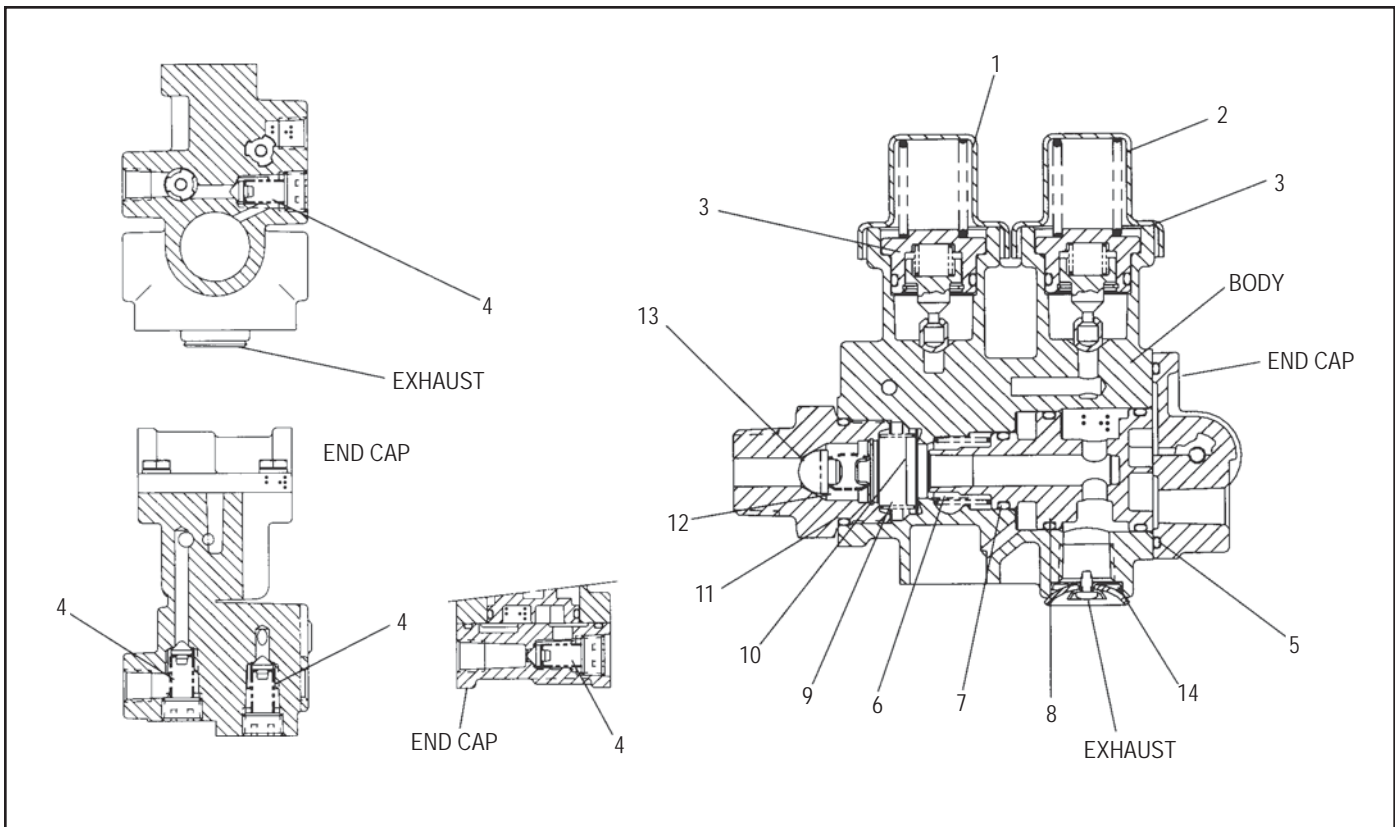

FIGURE 5 INSETS - VIEWS OF LOCATION OF THE FOUR CHECK VALVE ASSEMBLIES (4)
DISASSEMBLY TYPE 2 SR-4™ VALVE (REFER TO FIG. 5)
2. With a pair of pliers, grasp the raised surface of the two piston assemblies (3) and remove them from the valve body housing.
3. Refer to Fig. 5. With a 5/16 inch Allen Wrench, remove the four 3/8 inch pipe plugs from the SR-4™ valve. (Three are in the main body and one is in the end cap.) Trailers without anti-compounding feature will not have a check valve in the end cover. Remove the four check valve assemblies (4), one under each of the 3/8 inch pipe plugs.
4. Note and mark the position of the end cover to the body. Remove the four cap screws that retain the end cover. Remove the end cover from the body. Remove the sealing ring (5) from the end cover.
5. Remove the large piston from its bore by grasping the web with a pair of pliers and pulling. Remove the spring (6) from the base of the bore. Remove the o-rings (7 & 8) from the piston.
6. Remove the check valve assembly from the main body by lightly clamping the body in a vise and turning the check valve assembly counterclockwise with a 1-1/4 inch end wrench. Remove the spring (9) and the inlet/exhaust valve (10) from the housing. Remove the o-ring (11) from the O.D. of the check valve assembly.
7. With a pair of I.D. snap ring pliers, remove the snap ring in the end of the check valve assembly. Remove the spring seat, the conical spring (12) and the check valve (13).
8. Using a Phillips head screwdriver, remove the Phillips head screw and the diaphragm washer from the exhaust port of the SR-4™ valve body. Remove the diaphragm (14).
ASSEMBLY TYPE 2 SR-4™ VALVE (REFER TO FIG. 5)